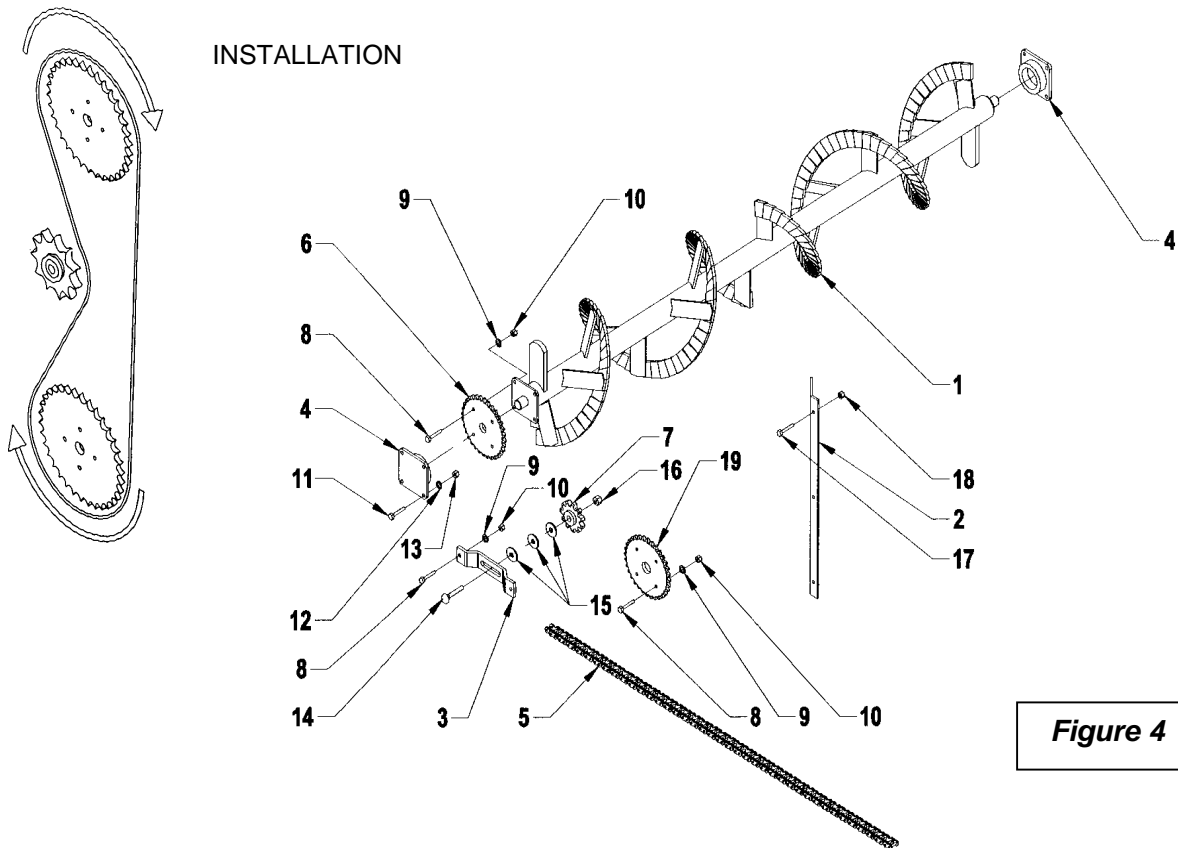

Figure 4
### Second Auger Conversion Kit (Option) (Figure 4)
2. Install the new sprockets (items 6 & 19) on both augers.
4. Install idler sprocket (item 7) on chain idler support (item.3) as shown. Assemble support inside snowblower in the pre-bored holes.
5. Install the chain (item 5) as shown on figure 4. Align the auger's sprockets with the idler sprocket and tighten securely the setscrews on the auger bearings to stabilize the augers.
6. Install the new chain guard (item 2) supplied with the optional upper auger. Reinstall the lower auger chain and the front guard.